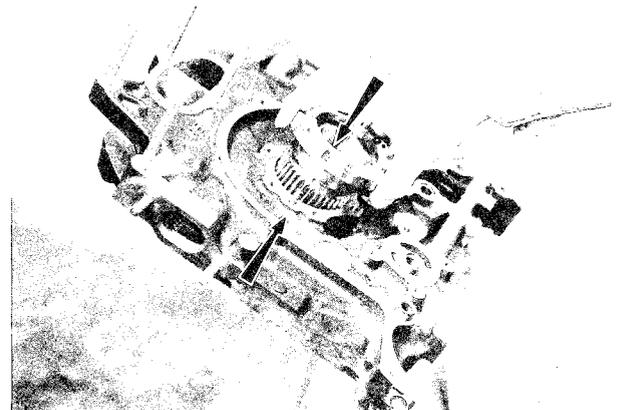

Fig. 1-31 Installing front stationary gear
4. Press in the stationary gear to the front housing with the main bearing replacer, aligning the slot of the stationary gear flange and the dowel pin on the housing, as shown in Fig. 1-31.